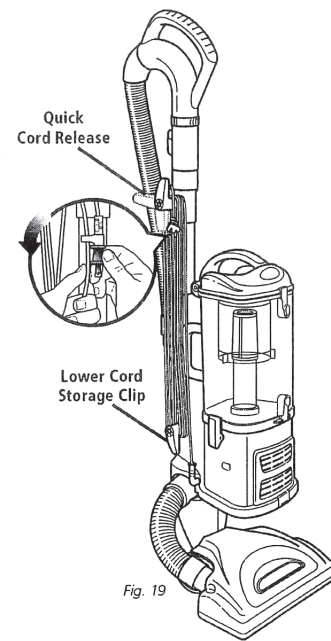

Fig. 19
- Rotate the upper quick cord release to its upright position and coil the power cord loosely around the two clips. Clip the plug onto the cord to secure. (Fig. 19)